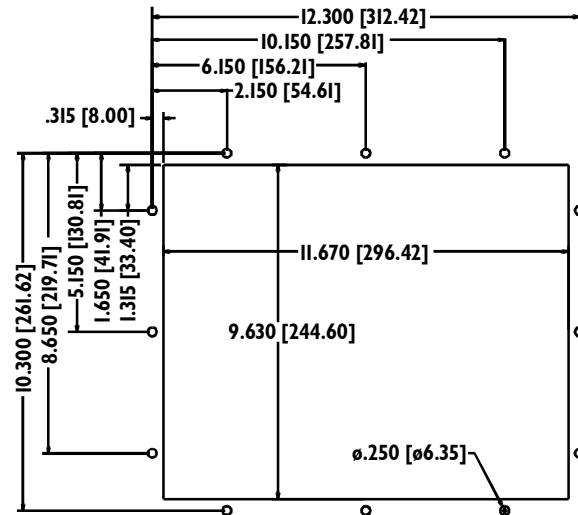
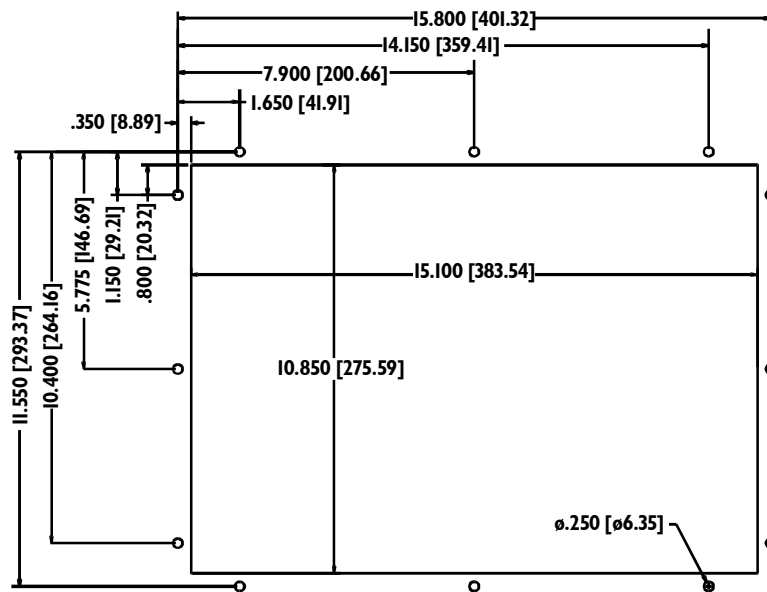

Figure 3-18. 3510/3512 System Cutout Dimensions (inches [mm])
Figure 3-19. 3510KP/3512KP System Cutout Dimensions (inches [mm])
2. Cut the hole according to the cutout dimensions in Figure 3-18 or Figure 3-19.